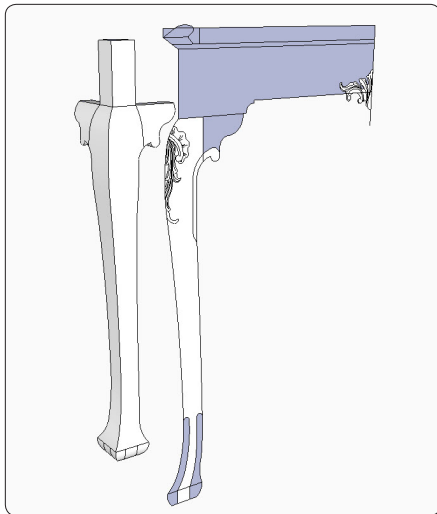

Figure 98. After tracing over the scanned image of the leg carving, move an unadorned cabriole-leg component directly behind the trace over.
Step 5 I use a technique I term *branding* for the leg carvings. In this case, I don't try to create a 3D carving on the leg; instead, I imprint the shape on the leg's surface. As before, I begin by tracing over the scanned image of the leg carvings, then position the 3D cabriole-leg component directly behind the traced-over face (Figure 98).